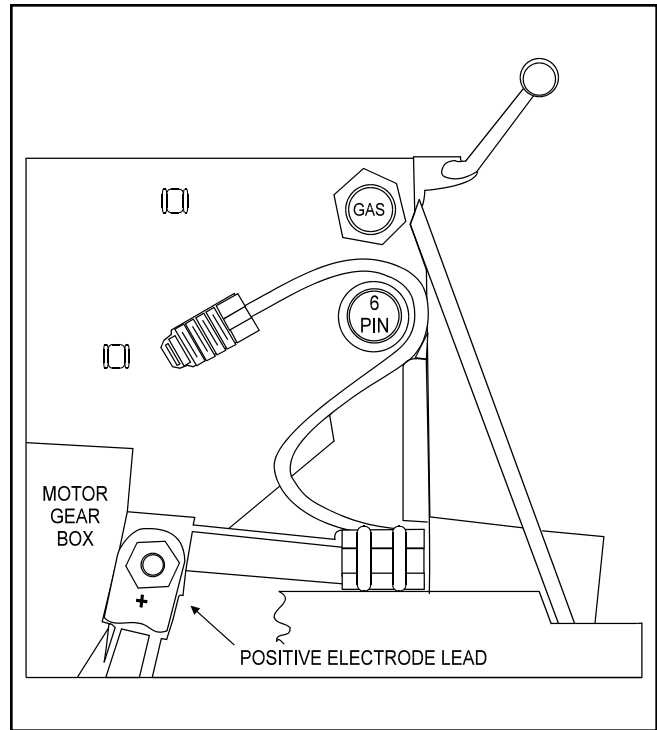

FIGURE C.6 - Spool Gun Connection.
1. Slide the spool gun cable assembly through the opening in the louvers provided for the work lead. See Figure C.6.
6. Thread the removed SP-250 gas line between the new gas hose and spool gun cable. See Figure C.6.